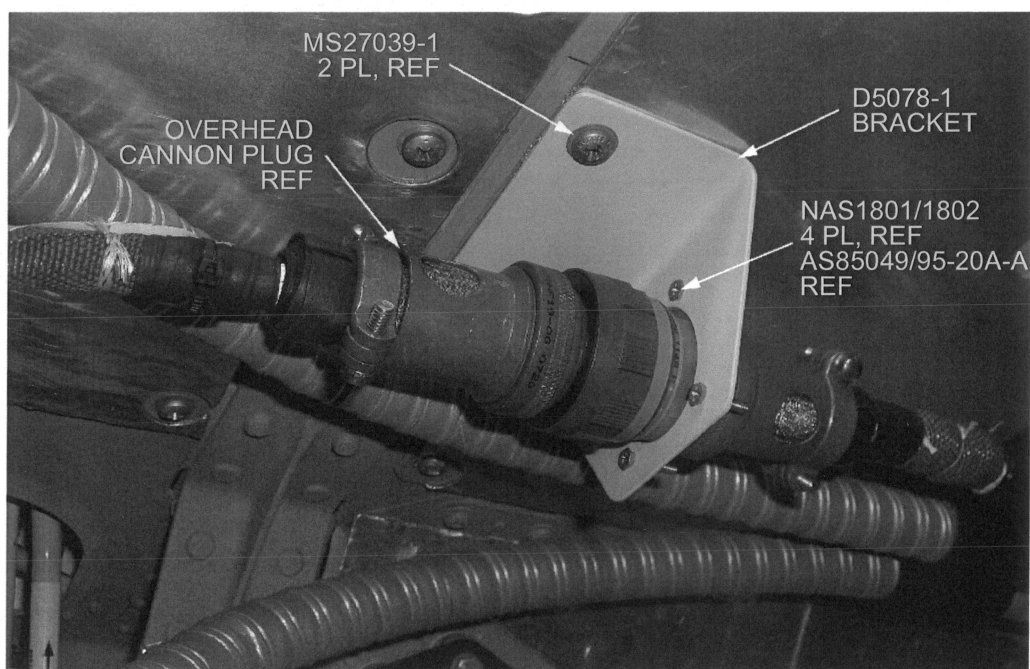

Figure 2. - D5078-1 Bracket Installation
- 2.3 Install overhead cannon plug in the D5078-1 Bracket using existing NAS1801/1802 screws and existing AS85049/95-20A-A Perimeter Mounting Flange as shown in Figure 2.
- 2.4 Reconnect wire harness to overhead cannon plug as shown in Figure 2.